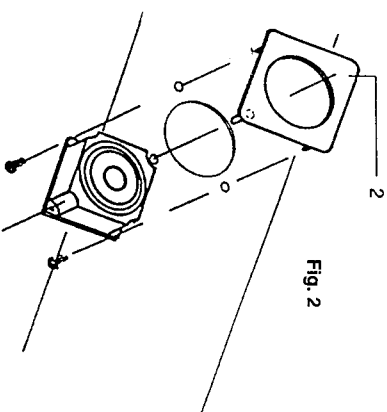

Fig. 2
Insert the clock into the aperture from the back of the control panel. Push the mounting bezel (2) through the front panel and secure to the clock using the four screws provided. (fig 2)